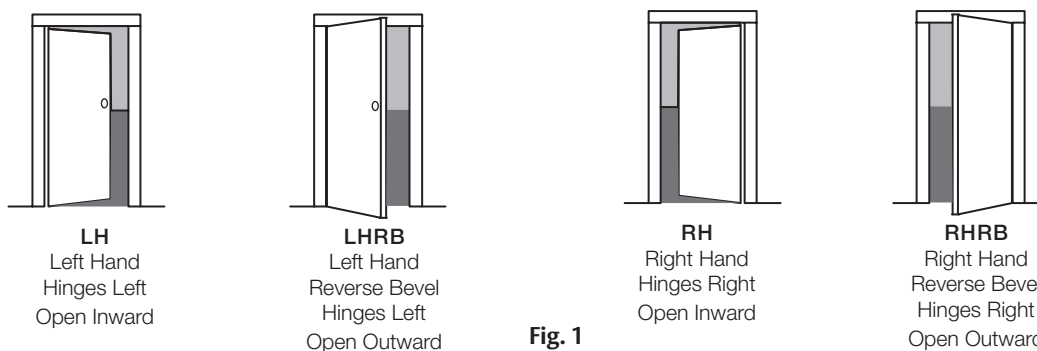

Fig. 1
- Verify hand and bevel of door. (Figure 1)